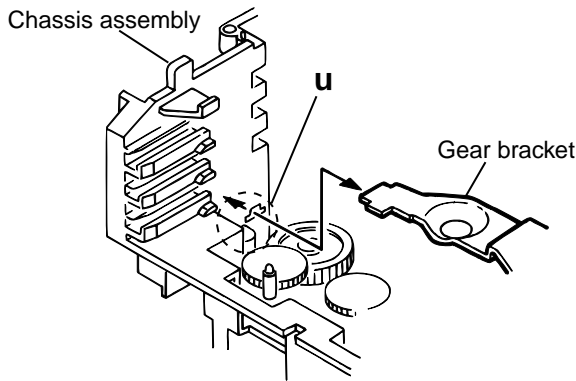

Fig.19
3. From the notch **u** section" on the chassis assembly fixing the edge of gear bracket, remove and take out the gear bracket(See Fig. 19).